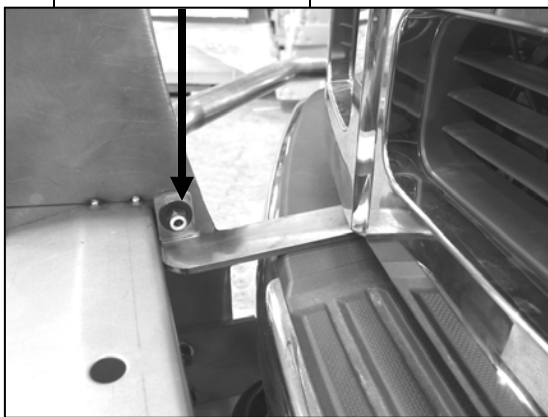

Figure 4
- Attach Grille Guard to Top Brackets using the included (2) 10-1.50mm x 25mm Button Head Bolts, (2) 10mm Nylock Nuts, and (2) 10mm Flat Washers (Figure 4). Do not tighten at this time.